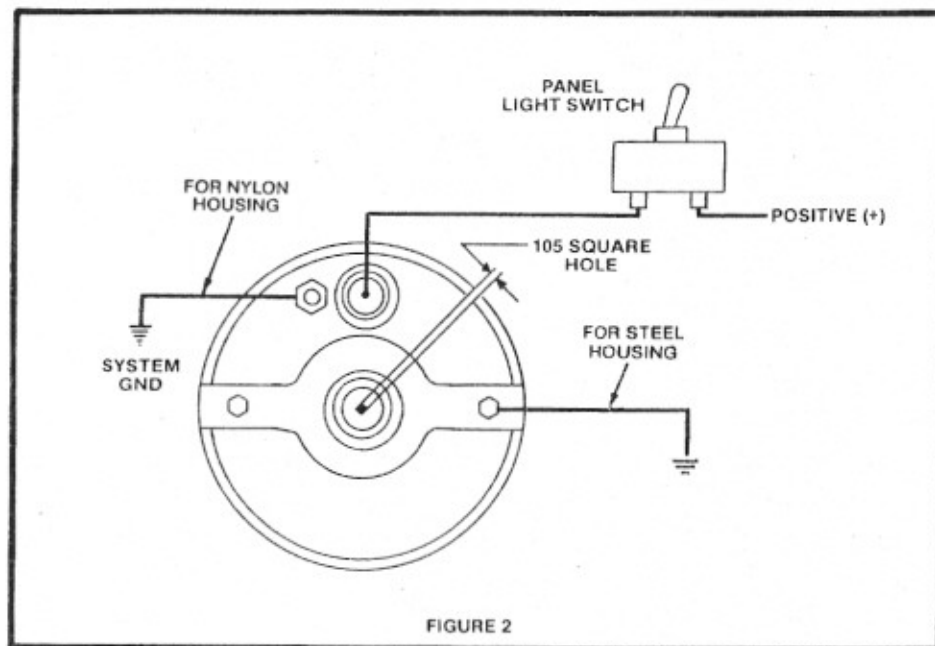

FIGURE 2
3. Connect wires as shown in Figure 2.